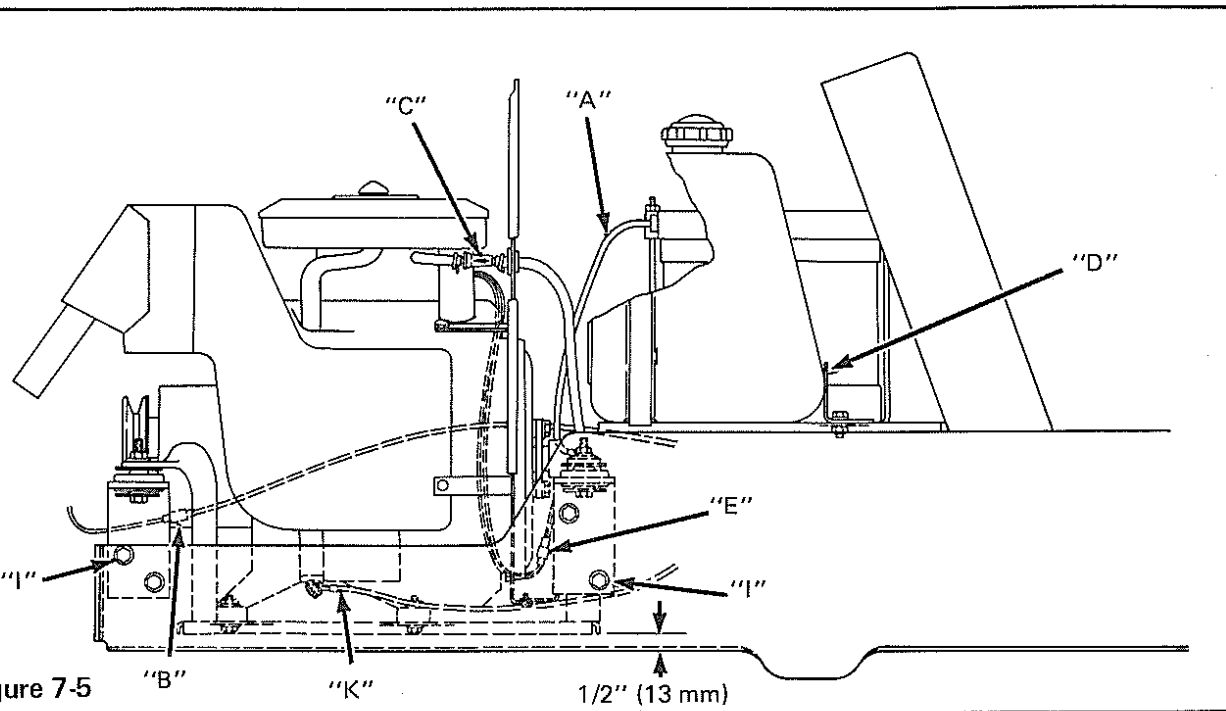

Figure 7-5
Use fuel petcock and connect fuel line at fuel filter. Remove bracket (D), Figure 7-5 and fuel tank.
11. Lift engine straight up till starter wire (K), Figure 7-5 can be removed.
12. Slide hub (H) of drive shaft off when removing engine.